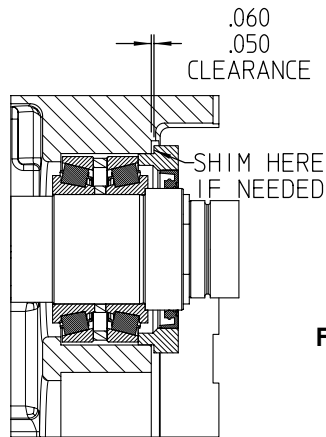

FIGURE 17
8. When back face clearance has been established in accordance with the value shown in Table 6, remove body and secure shaft assemblies in the gear box with bearing retainers. Do not apply sealant at this time. Retainers must seat firmly against the bearing and leave .050-.060" clearance between retainer and gear box. Use shims if needed to obtain this clearance. See Figure 17.